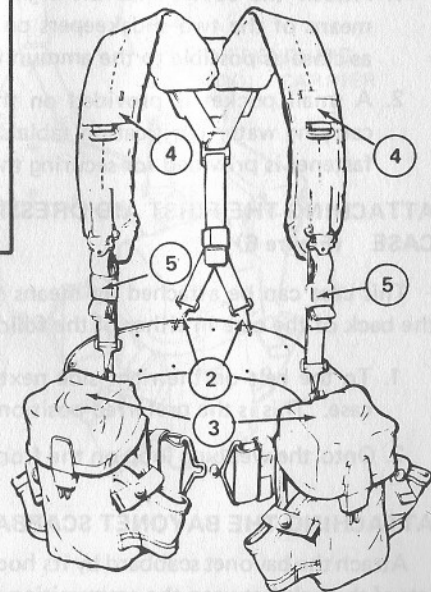

Figure 5. Attaching Suspenders to Ammunition Cases and Belt
- 5 If you have 20-round magazine cases for the M-14 or M-16 rifle, the sketch in the block on Figure 5 shows the way to attach them.
ATTACHING THE SUSPENDERS TO THE AMMUNITION CASES AND BELT (Figure 5)